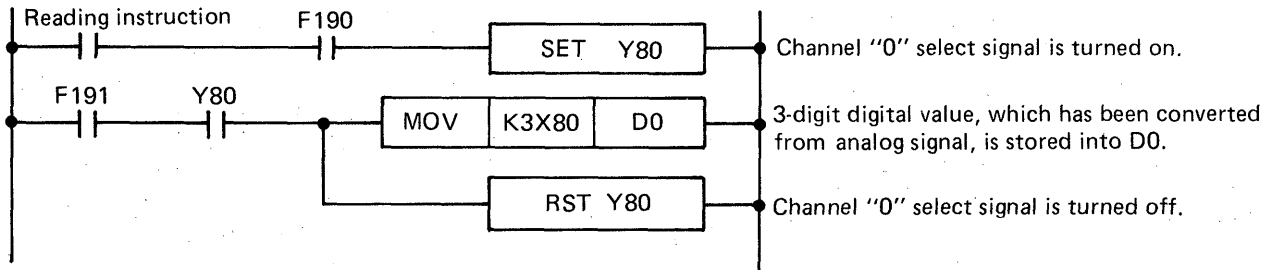

Fig. 4.13 Program Example for Reading Data in Channel "0" of A/D Converter Unit
(1) The program for reading data in channel "0" of KA62A and for storing the data into the data register D0 is as shown in Fig. 4.13.